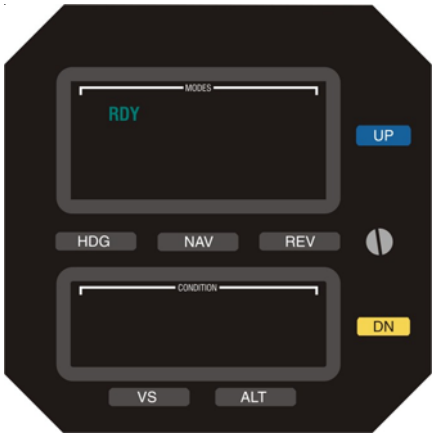

Fig. 2-1. AP Display, RDY for Operation
5. Set Autopilot Master Switch to ON position.	RDY annunciation only appears on AP display within 3 minutes, as shown in Fig. 2-1.